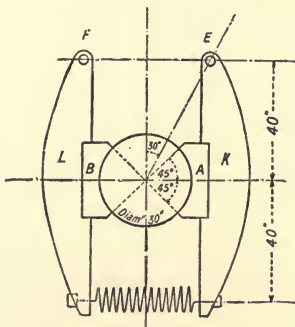

Fig. 1.
1. A brake mechanism is shown in fig. 1, the two shoes *A* and *B* being rigidly attached to the levers *K* and *L* which are pivoted at the fixed points *E* and *F*. Assuming that the